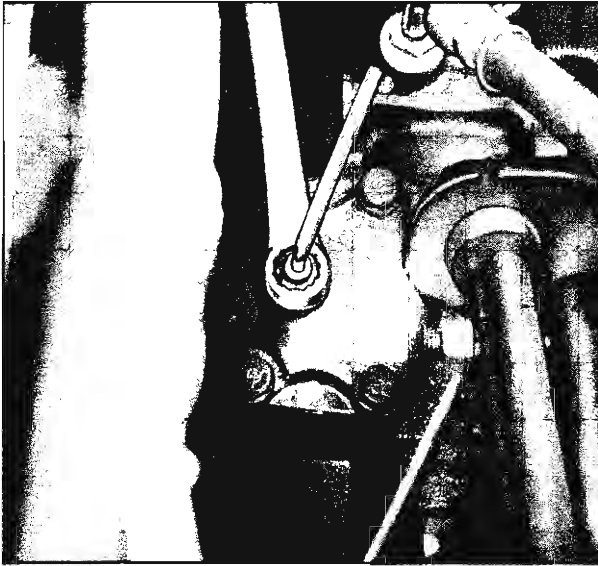

Fig. 40—Over Center Adjustment
2. Loosen the pitman shaft adjusting screw locknut and thread the adjusting screw out to the limit of its travel through the pitman shaft side cover (fig. 40).